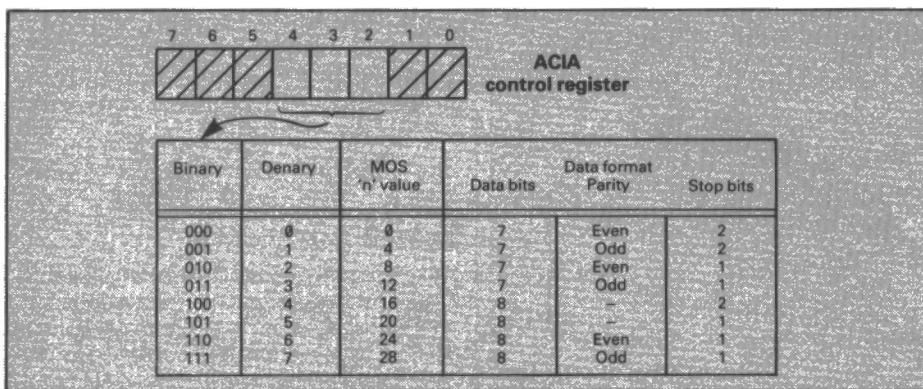

Figure 3. Data format control.
**Figure 3** shows that control register bits 2 to 4 determine the format of the serial data. As three bits are used, eight options are open to us. The BBC computer defaults to option 5 (ie 8 bits, no parity, and 1 stop bit). Altering the serial data format is extremely simple and achieved by using the 'FX' call:
where 'n' is the operating system format value shown in **Figure 3**. Notice that this value is the same as four times the binary pattern value for the appropriate bits in the